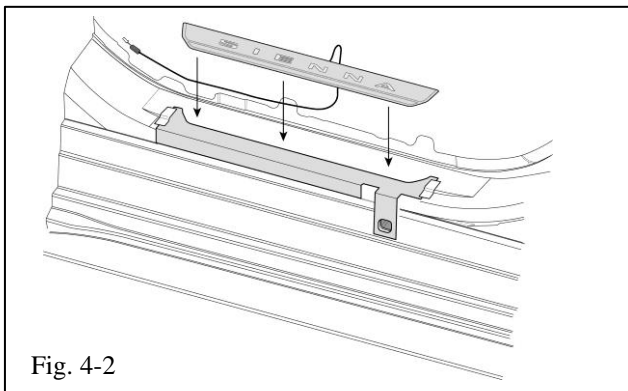

Fig. 4-2
- (c) Carefully align the front end of the door sill with the fixture. Ensure the door sill is parallel with the pinch weld and tape it down. (Fig. 4-2)